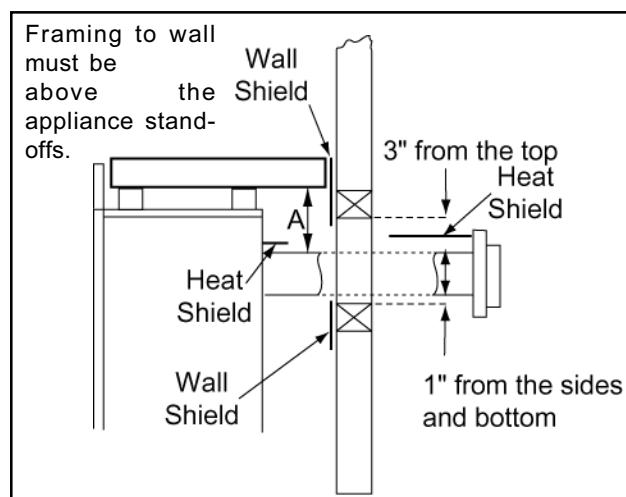

Figure 2
b. Minimum Venting Clearances (See Fig. 2)
1" sides and bottom of vent (see Fig. 2 for top of vent)